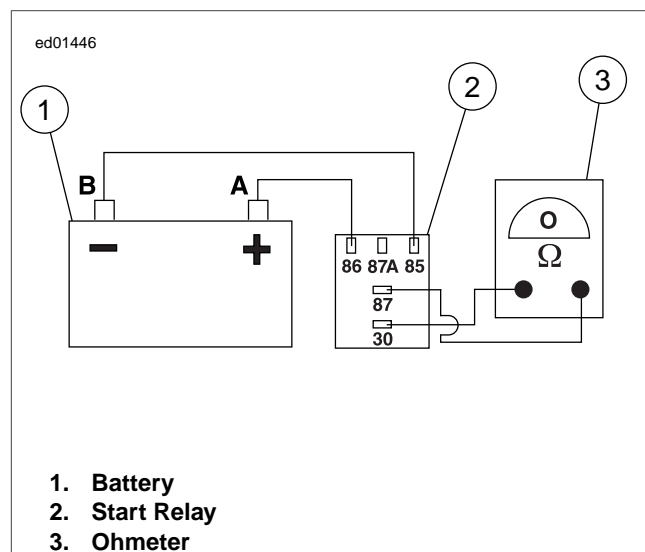
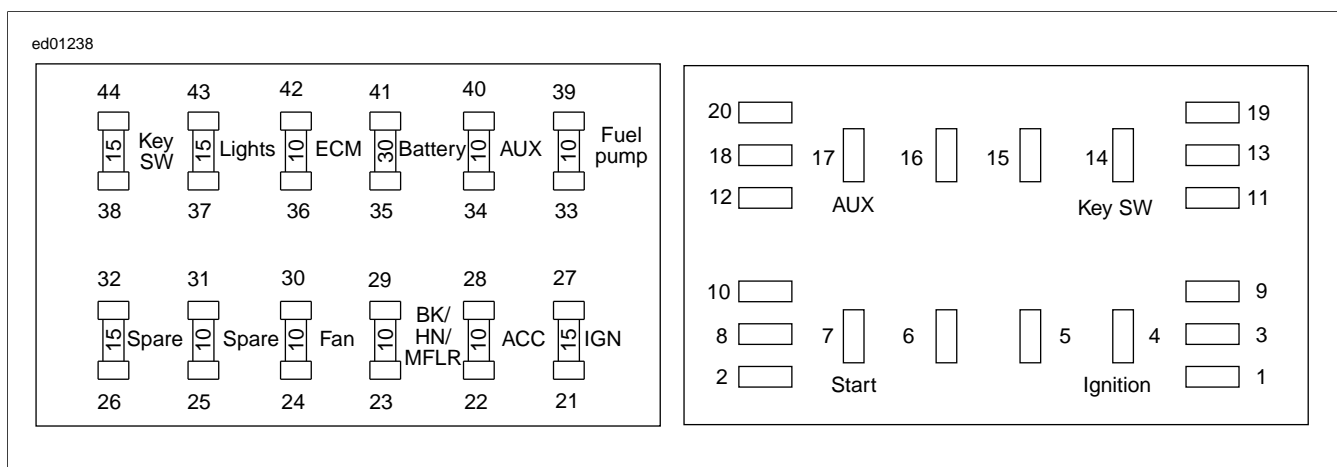
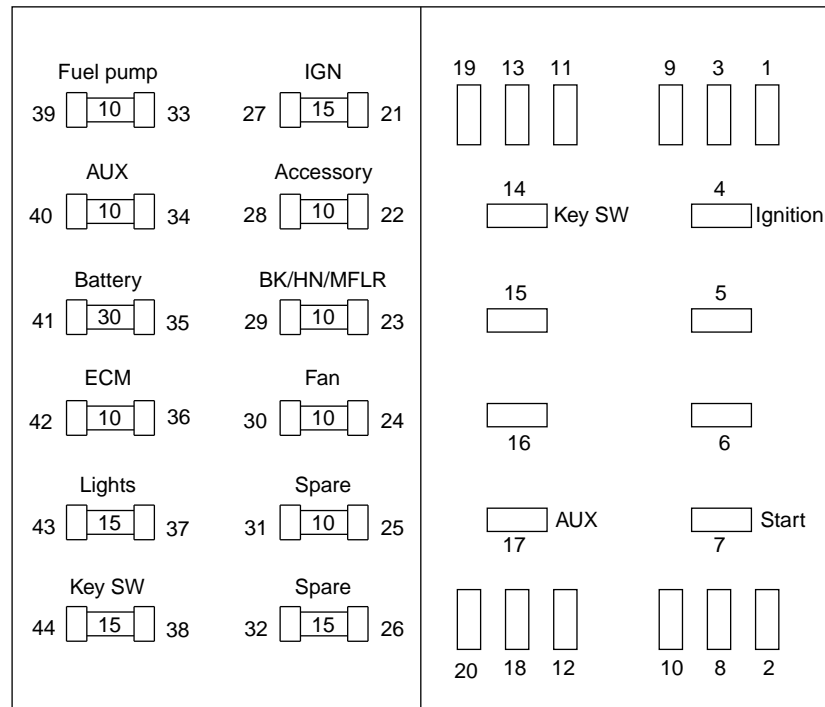
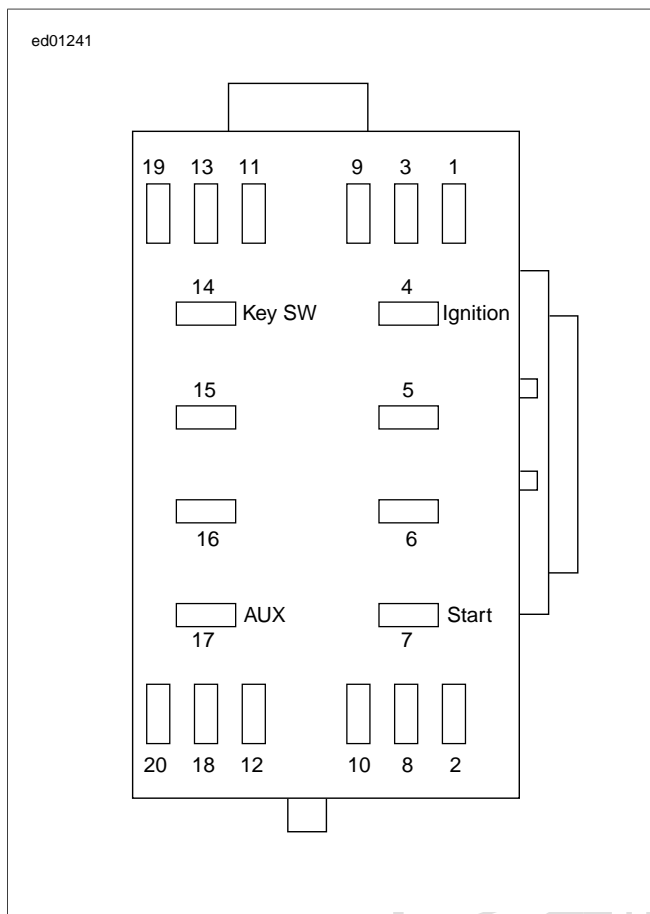

Figure 1-6. Start Relay Test
Figure 1-7. Fuses and Relays (Ulysses)
Figure 1-8. Fuses and Relays (Lightning)
Figure 1-9. Relays (Firebolt)
1. See Figure 1-6. The start relay can be tested using the motorcycle's 12-volt battery and a multimeter.
- a. See Figure 1-7 (Ulysses), Figure 1-8 (Lightning) and Figure 1-9 (Firebolt). Unplug start relay from relay/fuse block.
- b. See Figure 1-8 and Figure 1-6. To energize the relay, connect relay terminal "85" to the negative battery terminal, and relay terminal "86" to the positive battery terminal.